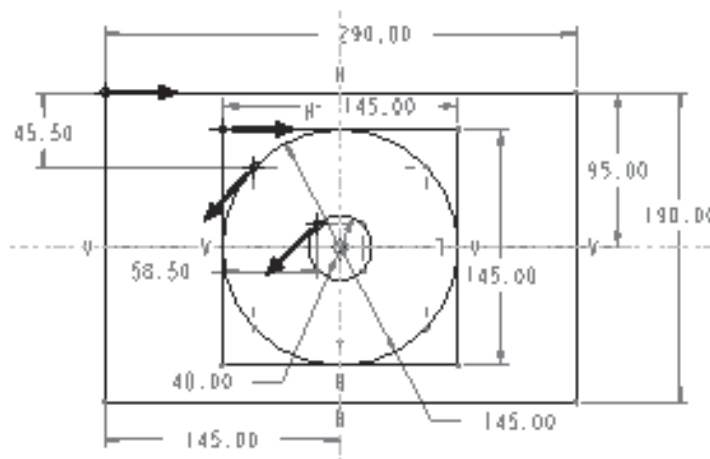

Figure 7-57 All four completed sections before giving depth
- d. Draw the third section, apply the dimensions and constraints, see Figure 7-57 and then toggle the section to draw the fourth section.
- e. Draw the fourth section, apply the dimensions and constraints, see Figure 7-57 and then give the depth between section numbers 1 and 2, 2 and 3, and 3 and 4.
Figure 7-57 shows all the sections completed with dimensions.
In Figure 7-57, note the direction of the start points shown by arrows. These are important to avoid a twisted feature.